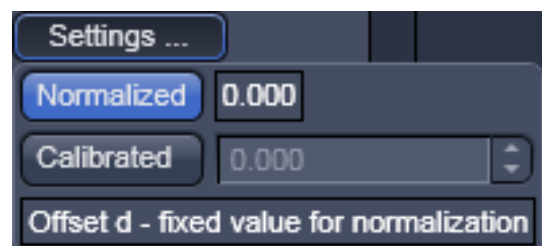

Fig. 276 Offset Settings panel
- You can set the offset (Fig. 276) to 0 by pressing the **Normalized** button.